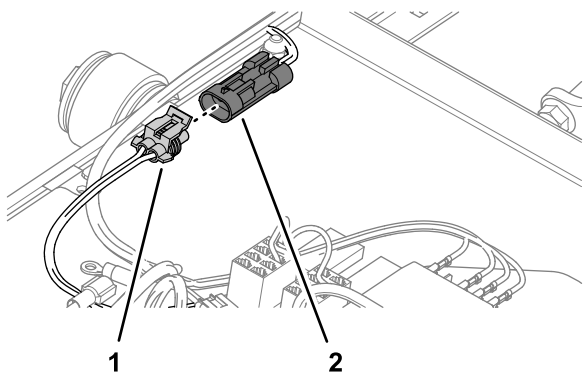

Figure 9
3. At the 20 cm (8 inch) branch of the kit wire harness, connect the 2-socket connector into the 2-pin connector of the adapter wire harness for the switch panel (Figure 9).